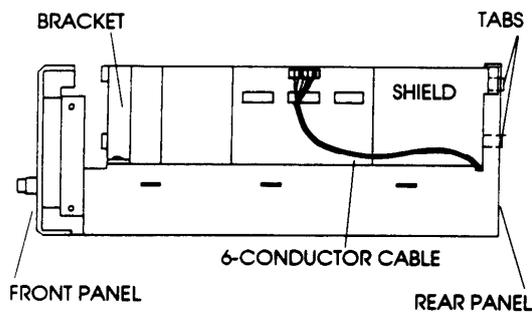

FIGURE 5 R8 SIDE VIEW
7) Position the VHF converter assembly into the chassis as illustrated (Figure 5). The board mounted components should face toward the outside edge of the R8 with the larger of the two component side shields toward the rear panel of the R8. Align the two tabs into the slots located on rear panel of the R8. Reposition any cables at rear panel, as necessary, to allow converter assembly to fit at the rear panel wall.
8) Replace the (2) rear panel screws, 4-40 x 1/4" Pan Head Phillips and (3) Front End board assembly screws that were removed in steps #3 and #4.